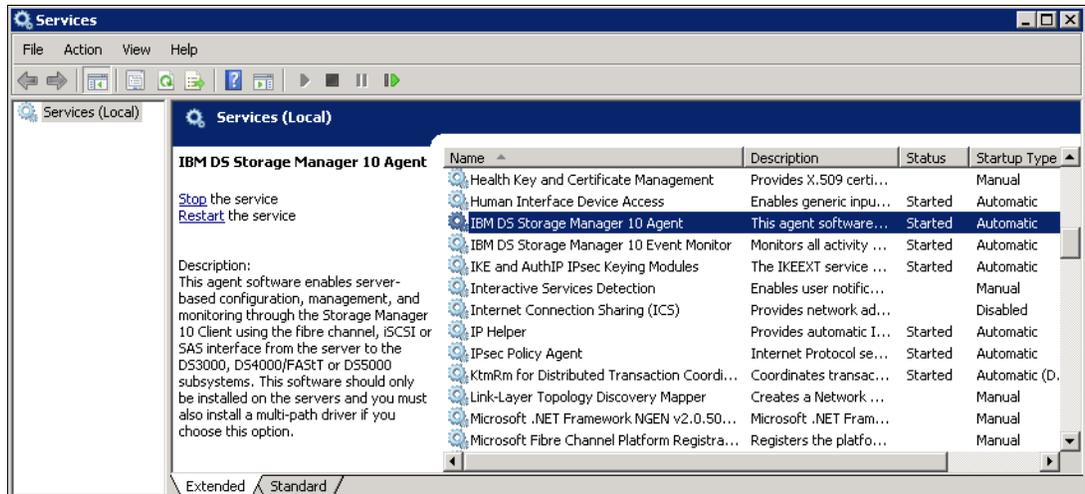

Figure 4-7 Verifying the SMagent installation
2. Scroll through the list of services until you find IBM DS Storage Manager 10 Agent as shown in Figure 4-7.